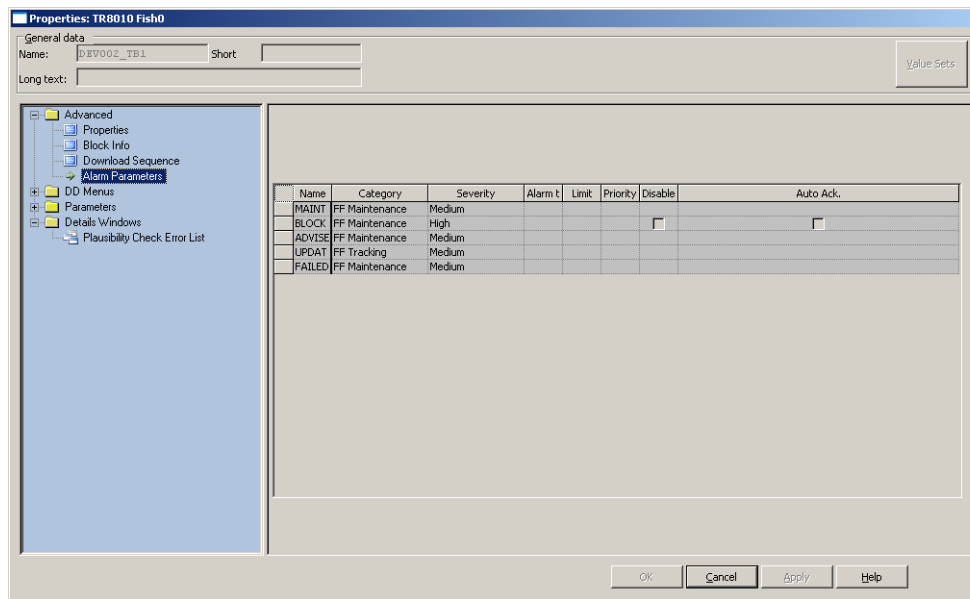

Figure 171. Alarm Parameters Tab
- c. enter alarm texts for FF Process alarms (refer to Figure 171).